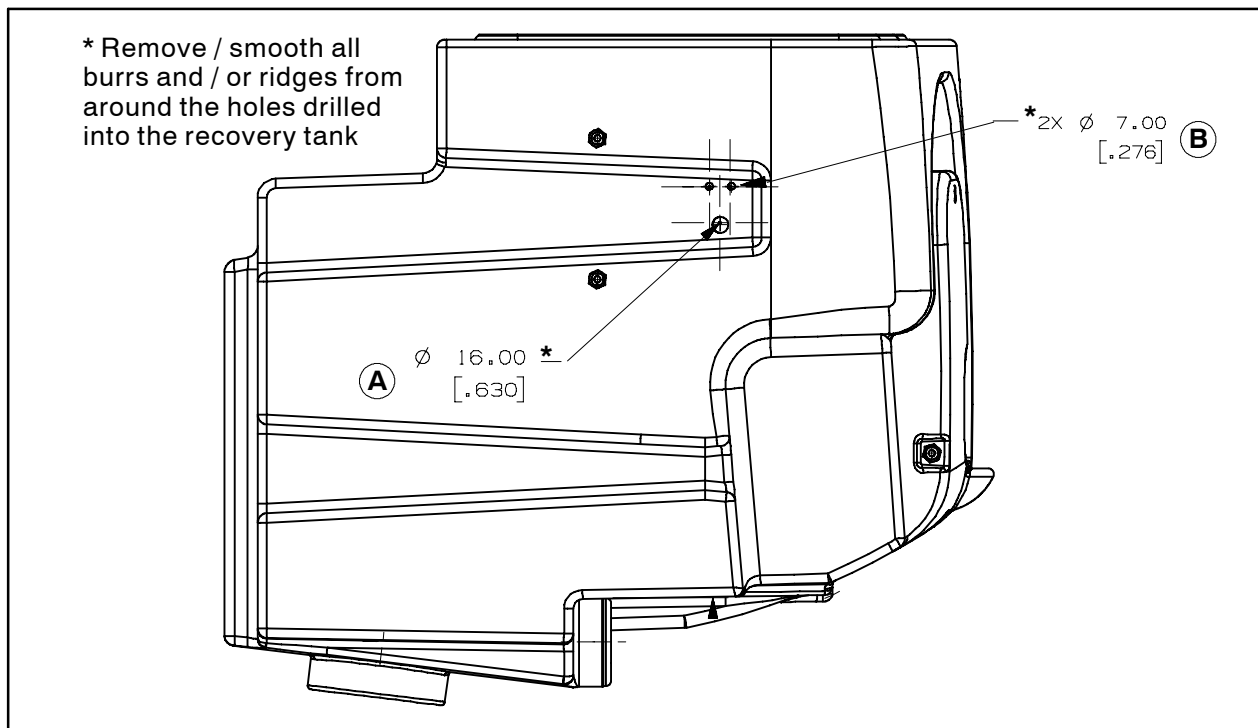
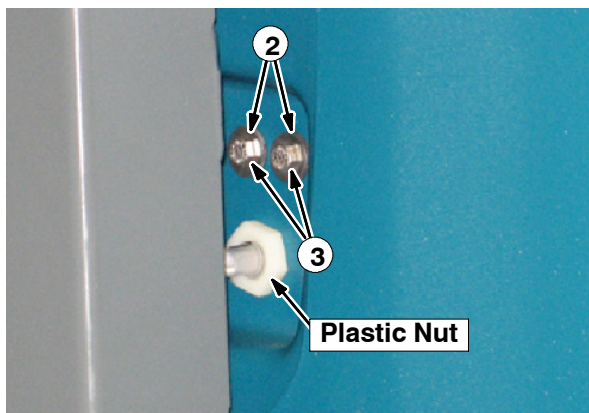
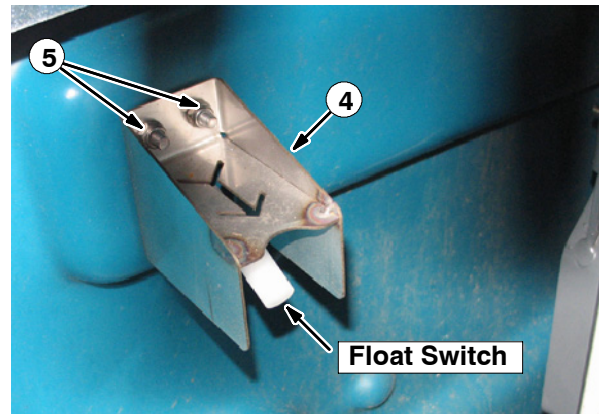
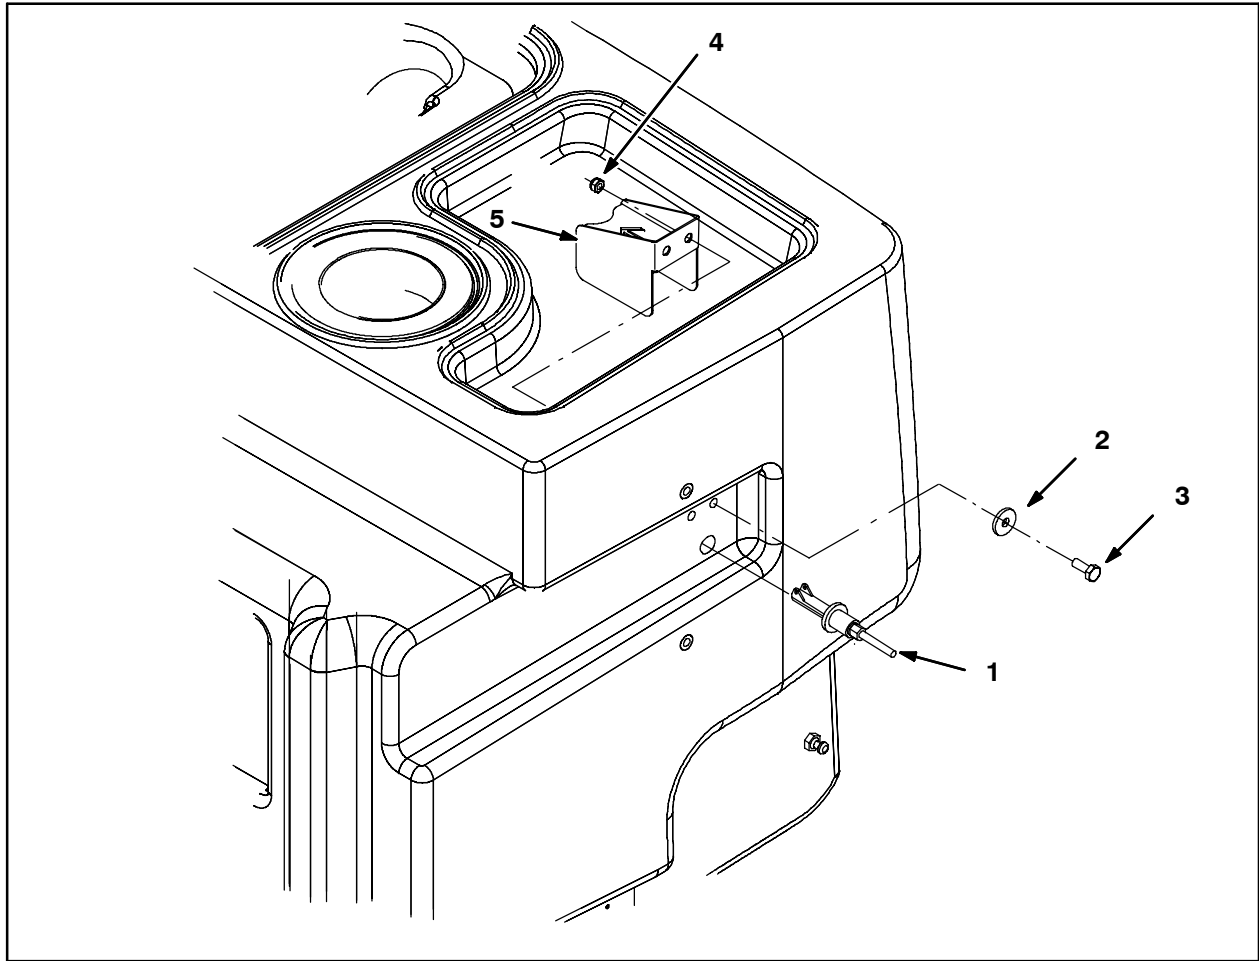

FIG. 2
FIG. 4
FIG. 5
FIG. 6
4. Drill a 5/8" hole through the larger indentation in the recovery tank. Refer to (A) on Fig. 2 for location of indentation.
5. Remove/smooth all burrs and/or ridges from around the hole drilled in the previous step. Refer to Fig. 2.
6. Remove the plastic nut from the level sensor (1). Refer to Fig. 4.
7. Pull the level sensor (1) wires through the 5/8" hole in the recovery tank and insert the sensor into the hole. Refer to Fig. 2.
9. Loosely tighten the nut onto the level sensor (1). Refer to Fig. 4.
11. Tighten the nut to secure the level sensor (1) inside the recovery tank. Refer to Fig. 4.
12. Hold the float switch protector bracket (4) onto the recovery tank and drill a 17/64" hole through each hole in the bracket and through the recovery tank. Refer to (B) on Fig. 2 and Fig. 5. for locations of holes and how the bracket should be positioned over the sensor.
13. Remove/smooth all burrs and/or ridges from around the two holes drilled in the previous step. Refer to Fig. 2.
14. Use two hex screws (3), two sealing washers (2), and two hex nuts (5) to install the float switch protector bracket (4) into the recovery tank. Note location of sealing washers (1) **outside** the recovery tank. Refer to Fig. 4, Fig. 5, and Fig. 6.